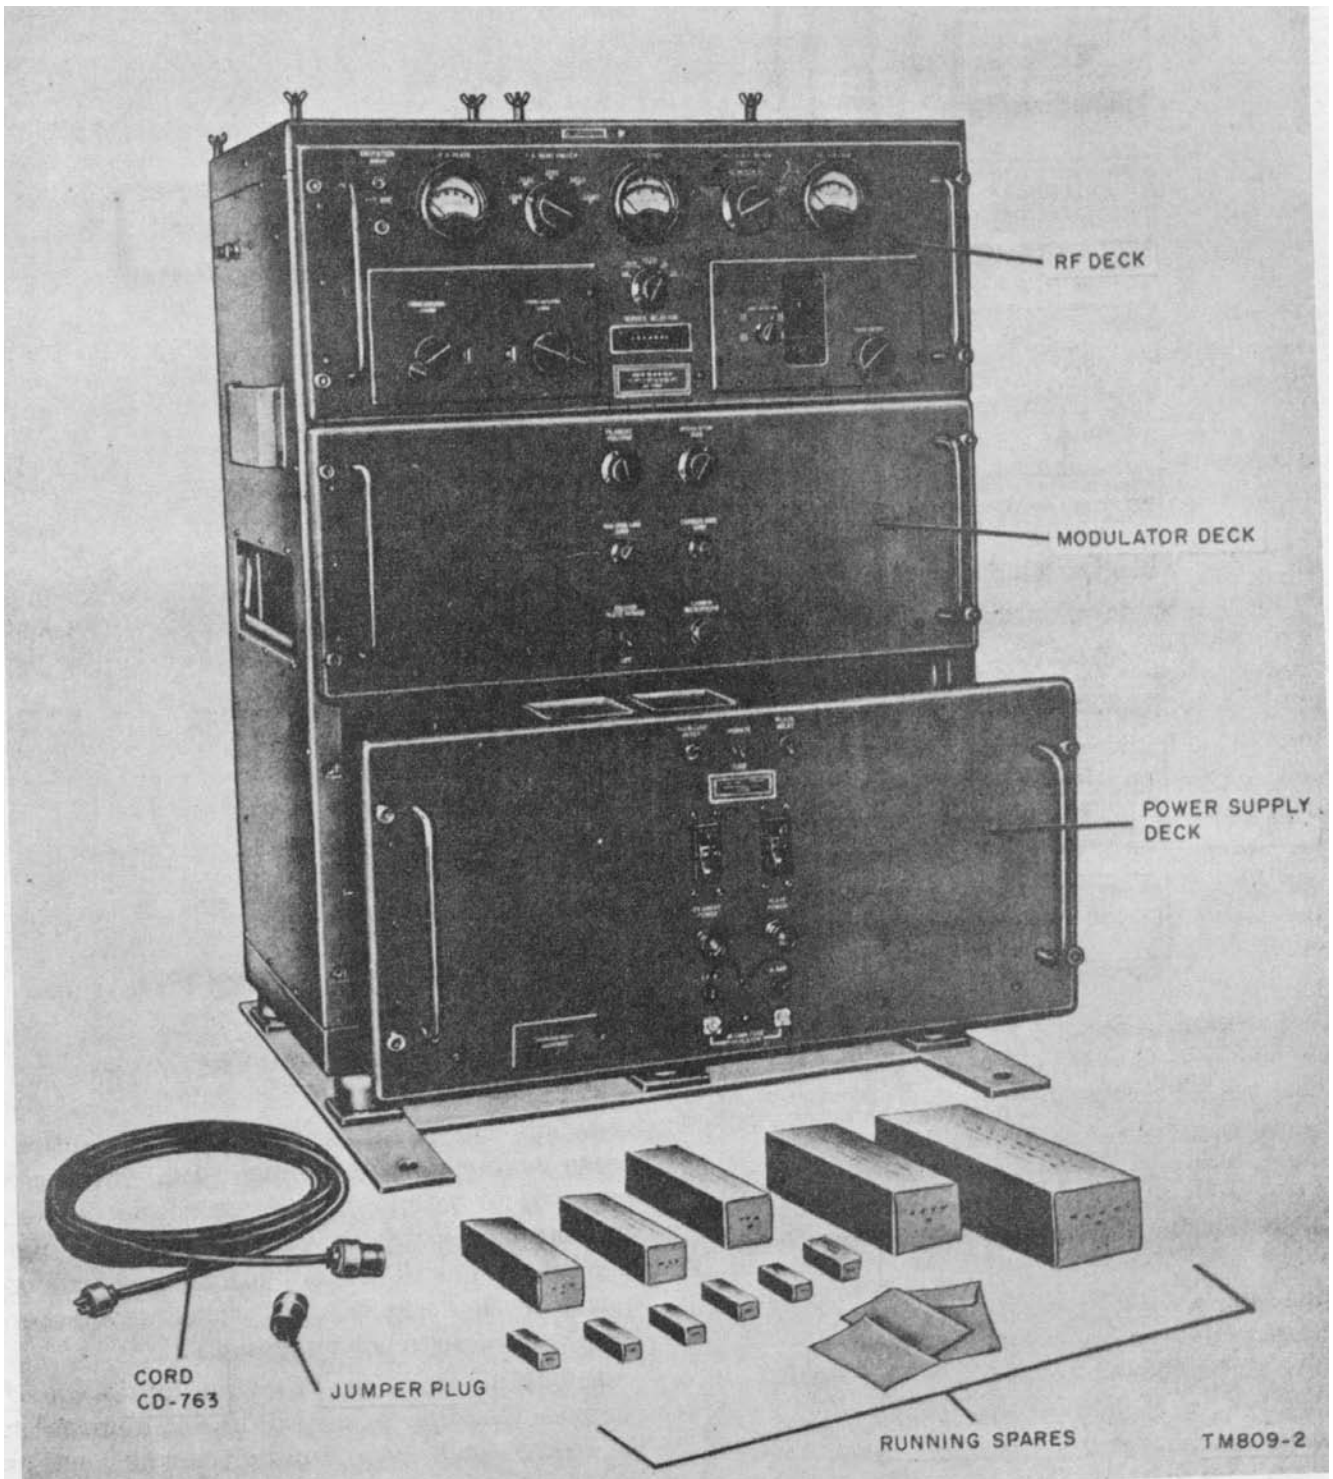

Figure 3. Radio Transmitter T-368/URT, components.
a. *Components.* The transmitter components (fig. 3) are listed in the following chart:
(figs. 3, 4, and 5)
b. The rf deck (fig. 3) contains all the rf controls and the meters of the equipment on its front panel. Each tuning control contains its own mechanical counter. Two coaxial receptacles, FSK and EXT EXC (fig. 6), provide a means of bringing in outside signals for increasing the types of service selected by the SELECTOR SERVICE switch. The exciter stages are mounted on subassemblies and can be removed easily for servicing and adjusting.
c. The modulator deck (fig. 3) contains all the modulation controls of the equipment. The chassis contains a speech amplifier subassembly which can be easily removed for testing purposes. A receptacle is provided to connect either a handkey or a microphone to the transmitter.
d. The power supply deck (fig. 3) contains the protection and indicator devices and all of the ac controls except the THERMAL RESET switch of the equipment. A small plate covers the two controls used to adjust the overload relay. The panel lamps, fuses, and blown fuse indicators are located on the front panel.